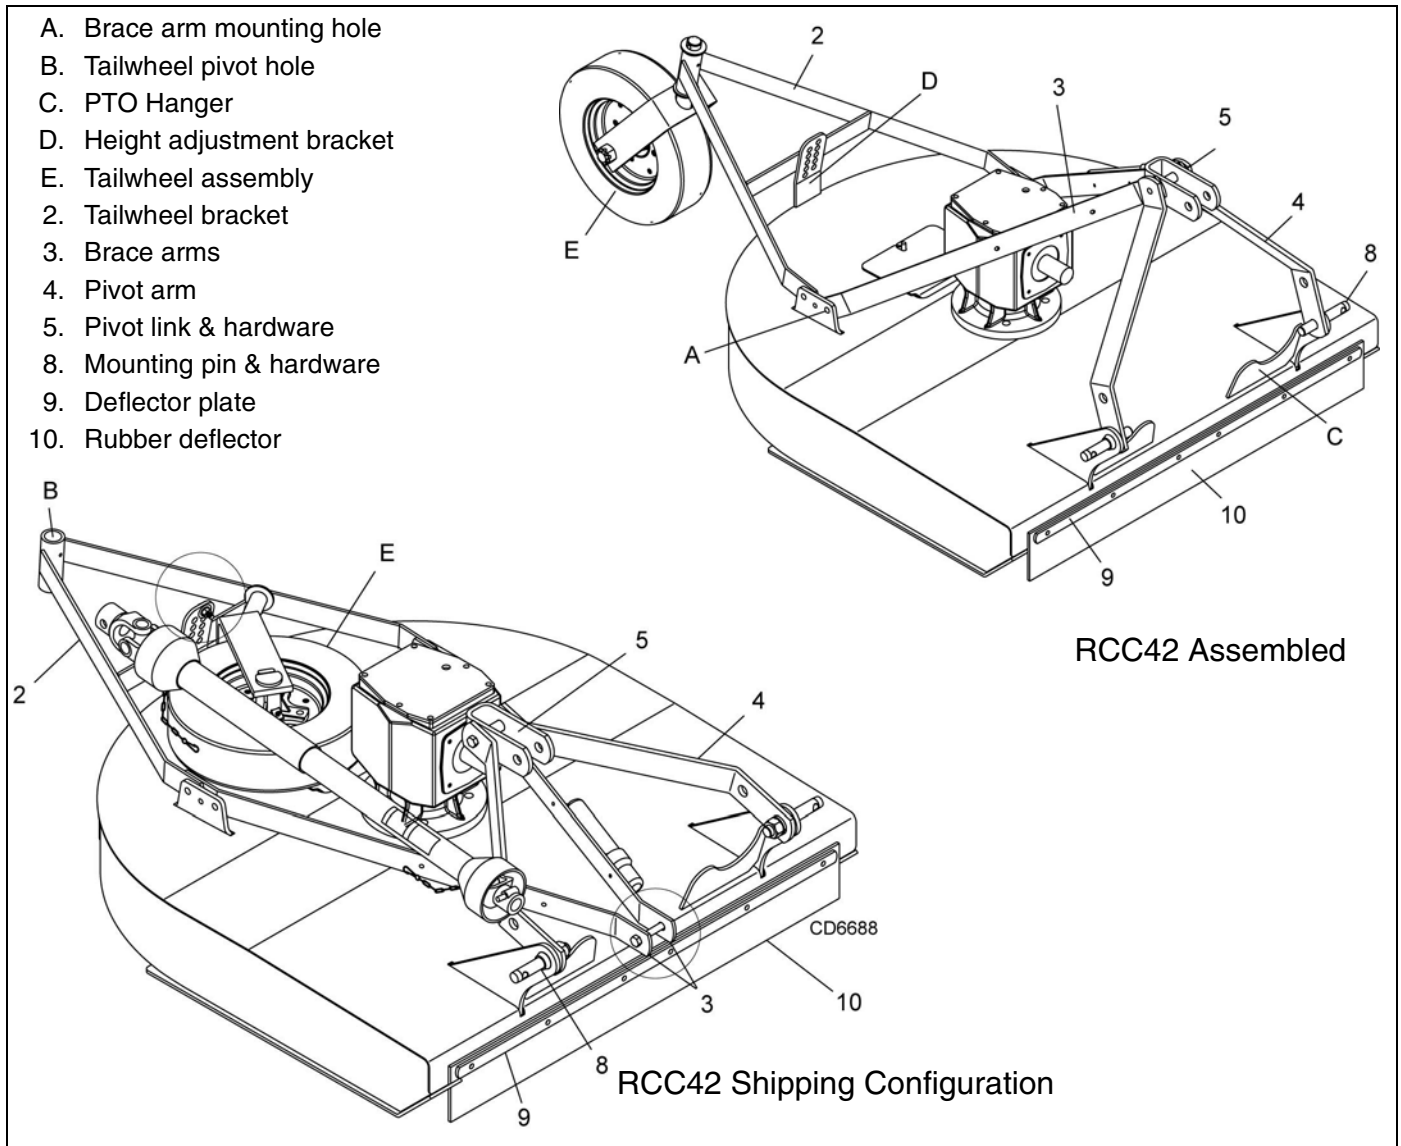

Figure 24. RCC42 Shipping Configuration and Assembled Unit
Refer to Figure 24.
2. Remove all parts that are wired or strapped to cutter. Remove lock nuts that are securing brace arms (3) to the cutter.
3. Rotate pivot arms (4) up off the cutter.
4. Remove 1/2 NC x 1-1/2 cap screws from brace arm and height adjustment bracket (D). See circle insert in Figure 24.
5. Place brace arms (3) inside the frame rails and install in brace pivot mounting holes (A). Secure with 1/2 NC x 1-1/2 cap screws.
6. Remove pivot link (5) and hardware from top of pivot arms.
7. Place brace arms (3) and pivot link (5) inside pivot arms (4). Secure using hardware previously removed.